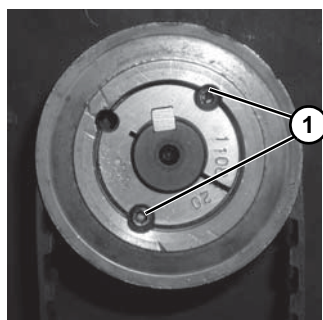

Figure 8
7. Tighten driven pulley taper-lock screws (Figure 8, item 1).
*If timing belt does not slide over pulley flange, loosen driven pulley taper-lock screws (**Figure 8, item 1**) & (**Figure 12, item 2**) and remove pulley with belt (**Figure 12, item 1**). For re-installation, see steps 5 thru 7 on page 9.*